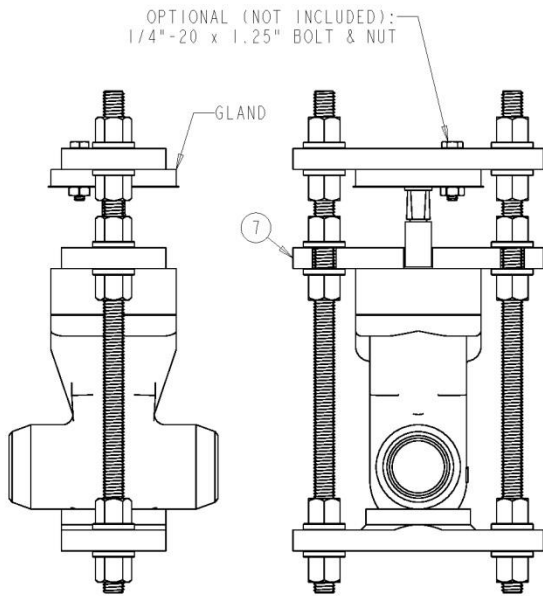

FIGURE 3
8. RAISE UP GLAND AND INSTALL MIDDLE PLATE SECURELY AS SHOWN IN FIGURE 3.